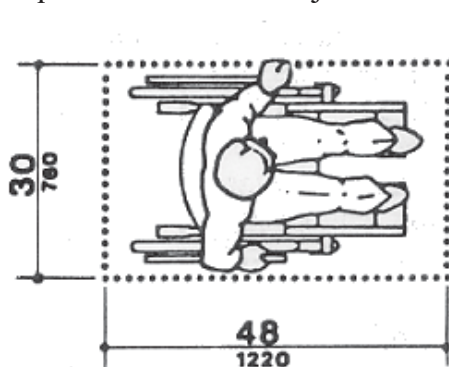
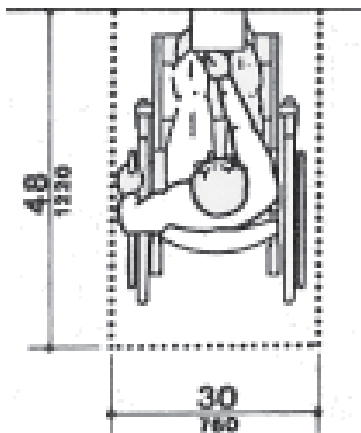

Figure 4a. Clear floor space.
Figure 4b. Forward approach.
4.2.4.1 Size and Approach. The minimum clear floor or ground space required to accommodate a single, stationary wheelchair and occupant is 30 inches by 48 inches (760 mm by 1220 mm) (see Fig.4a). The minimum clear floor or ground space for wheelchairs may be positioned for forward or parallel approach to an object (see Fig. 4b and 4c). Clear floor or ground space for wheelchairs may be part of the knee space required under some objects.